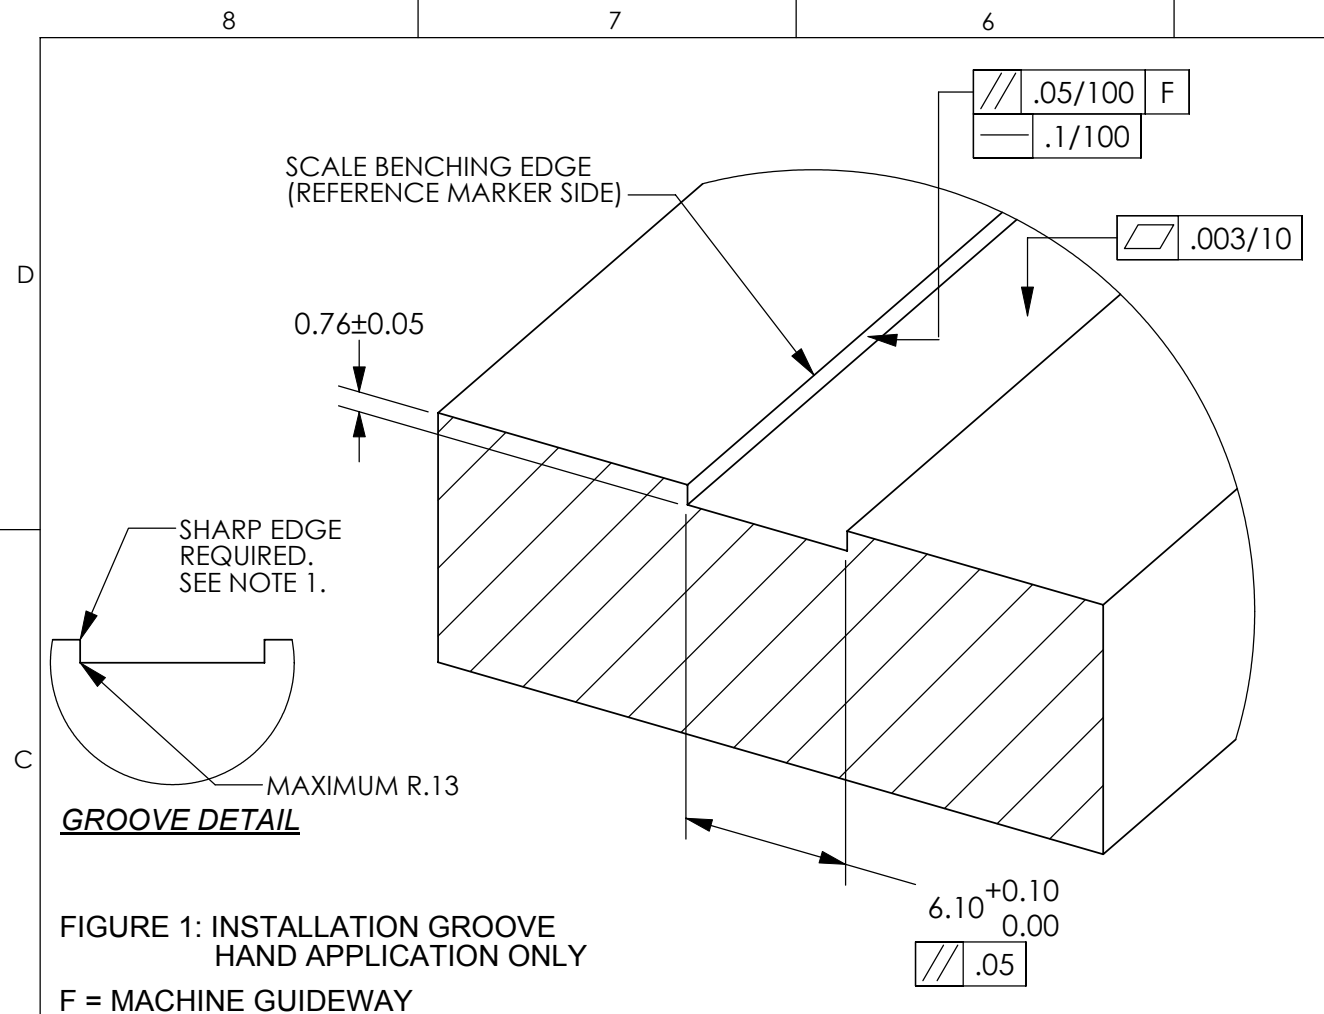
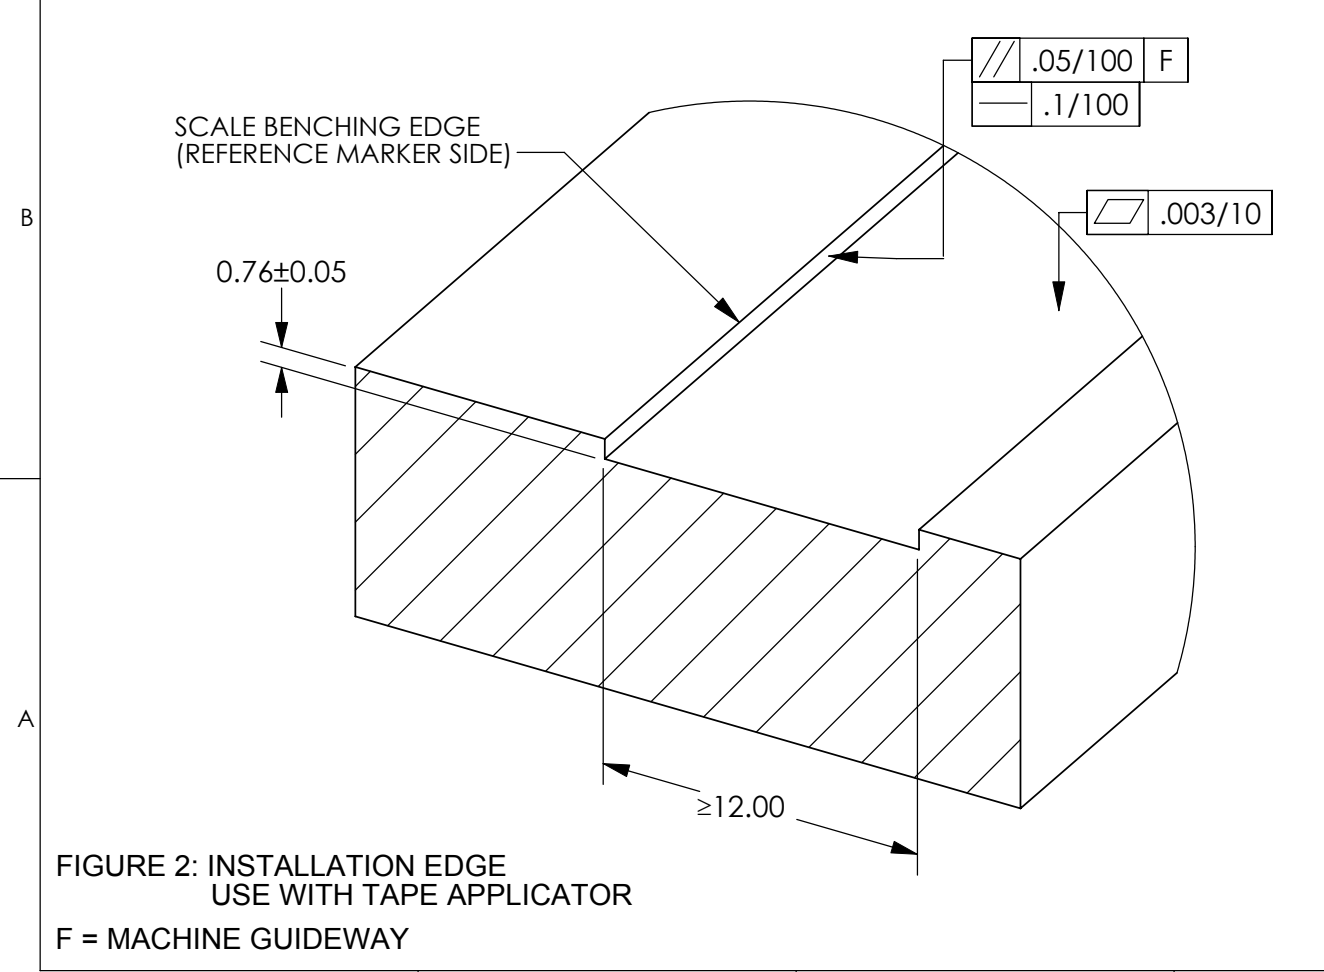
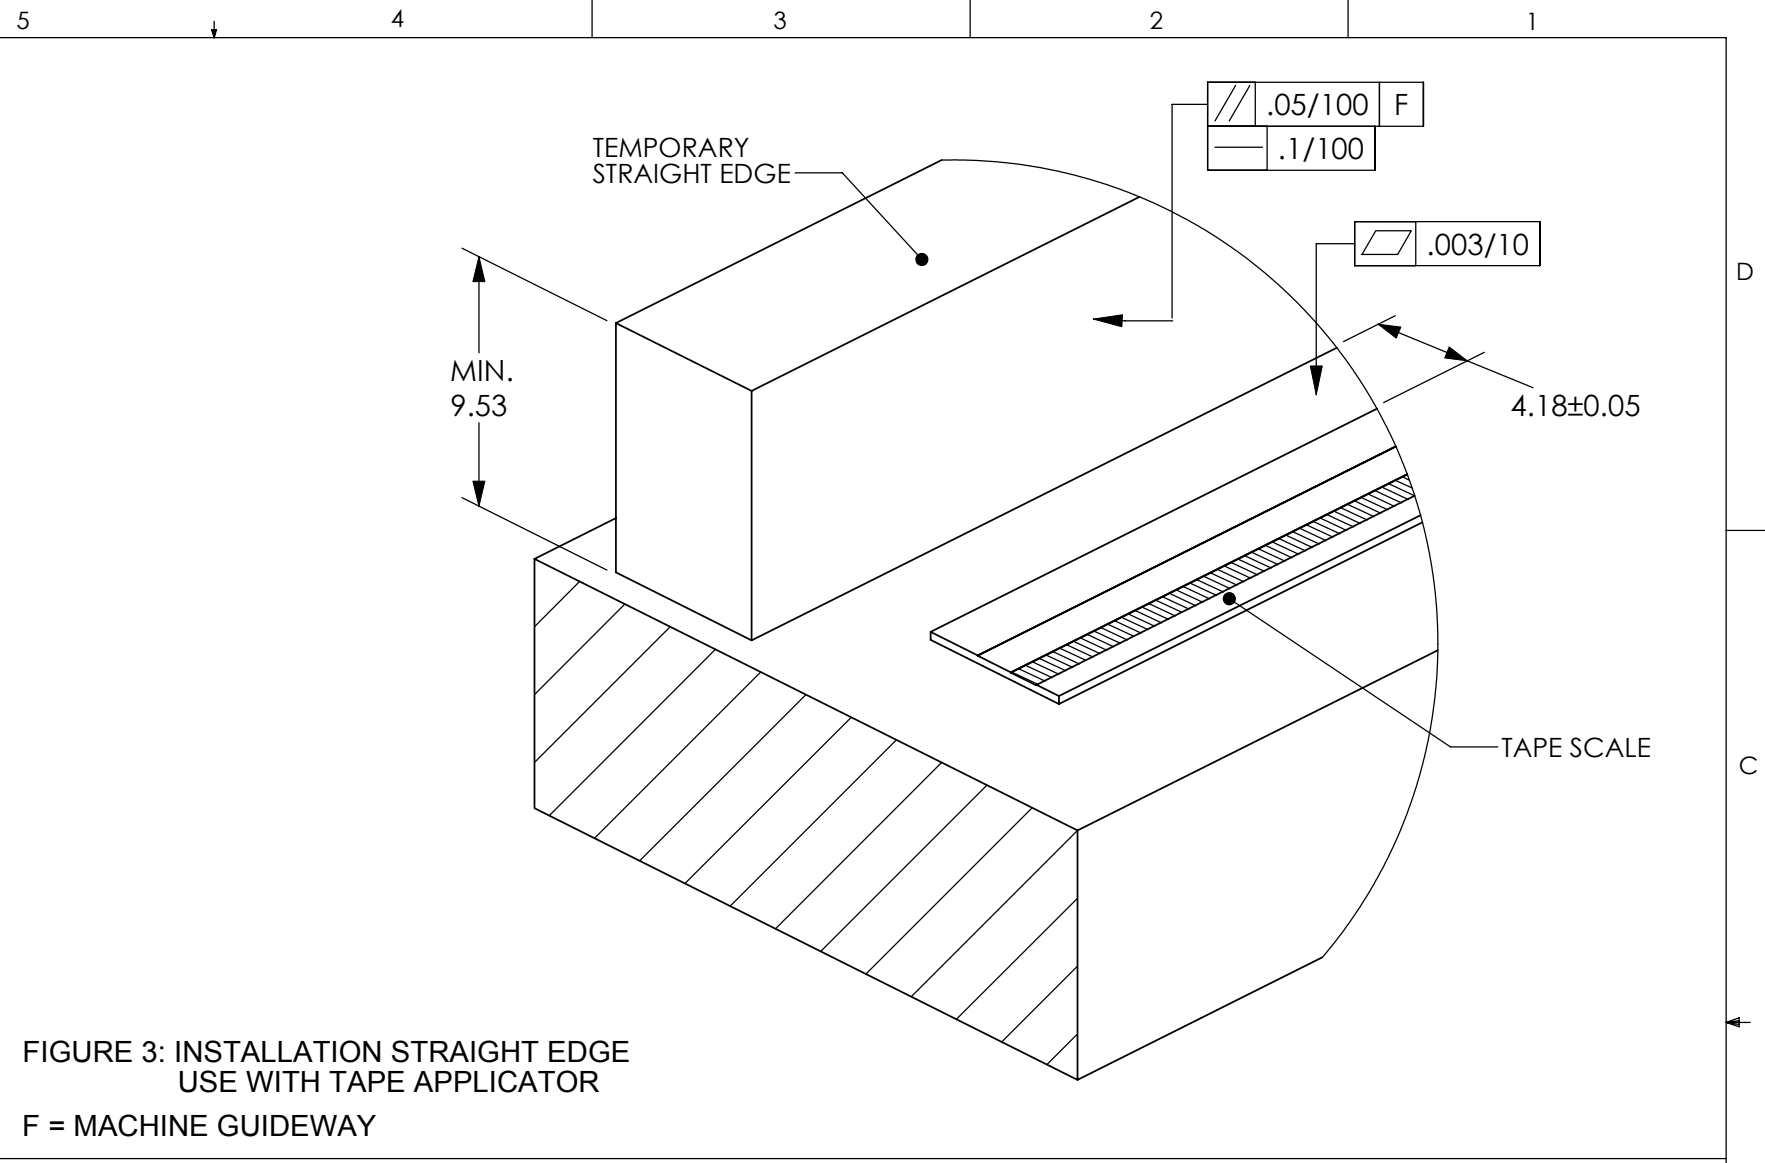

FIGURE 1: INSTALLATION GROOVE
FIGURE 2: INSTALLATION EDGE
FIGURE 3: INSTALLATION STRAIGHT EDGE
3. THE INSTALLATION METHOD SHOWN IN FIGURE 1 SHOULD INVOLVE HAND INSTALLATIONS ONLY. THE APPLICATOR TOOL IS NOT COMPATIBLE WITH THIS METHOD. IN ADDITION END CAPS CANNOT BE USED WITH THIS METHOD.
4. FOR APPLICATIONS WHERE MACHINING THE MOUNTING SURFACE IS NOT DESIRED, A TEMPORARY STRAIGHTEDGE CAN BE USED. A STAINLESS STEEL RULE MAY BE USED AS IN FIGURE 2 IF THE RULE MEETS THE THICKNESS REQUIREMENT. OTHERWISE, THE TEMPORARY STRAIGHTEDGE MAY BE USED AS SHOWN IN FIGURE 3.
5. IN FIGURE 3, THE OUTSIDE REFERENCE SURFACE OF THE TOOL SLIDES AGAINST THE TEMPORARY STRAIGHT EDGE, AND THE TAPE SCALE IS THEREFORE OFFSET FROM THE EDGE AS SHOWN. IF THIS OFFSET IS TOO SMALL FOR THE APPLICATION, THE CUSTOMER MAY DESIRE TO CREATE A SPACER THAT CAN ATTACH TO THE OUTSIDE SURFACE OF THE TOOL. PLEASE SEE INSTRUCTION MANUAL FOR DETAILS.
6. IN FIGURES 1 AND 2, THE SCALE BENCHING EDGE IS INTENDED TO AID THE INSTALLATION OF REFERENCE MARKERS. FOR APPLICATIONS SUCH AS IN FIGURE 3, THE CUSTOMER MAY USE A TEMPORARY BENCHING SURFACE TO INSURE THE PROPER INSTALLATION OF THE REFERENCE MARKERS. PLEASE SEE INSTRUCTION MANUAL FOR DETAILS. THE EDGE OF THE GROOVE OR STRAIGHTEDGE MUST BE SHARP ON BENCHING SIDE IN ORDER FOR APPLICATOR TO USE AS A GUIDE. IN ORDER FOR THE TAPE SCALE TO MOUNT CLOSE TO THIS EDGE, A MAXIMUM RADIUS OF .13 SHOULD BE USED WHERE THE EDGE MEETS THE BOTTOM OF THE MOUNTING SURFACE.